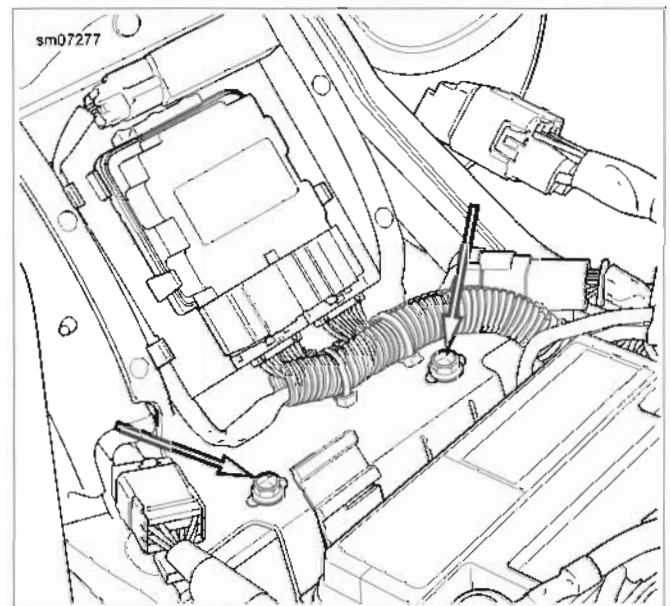

Figure 3-177. Wire Shield Fasteners
9. See Figure 3-177. Install two bolts to attach wire shield to frame.